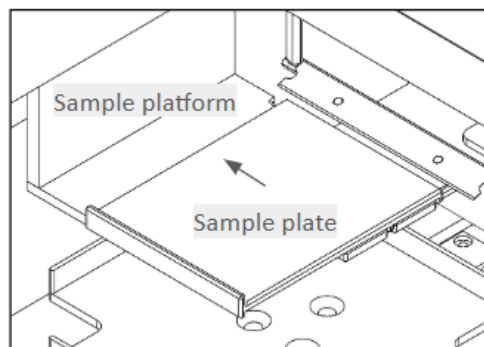

Figure 3 Sample plate mounting on the Megatome
2. Slide the sample plate onto the Megatome sample platform in the same direction as shown in Figure 3. The sample plate is secured magnetically. If the sample plate is placed incorrectly, it will not be secured in place.